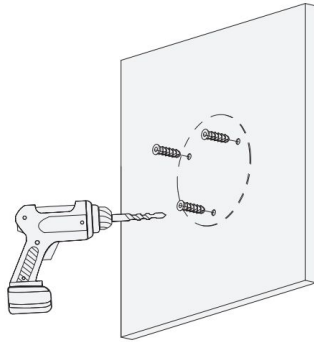

Figure 2-1
Step 2 Drill the appropriate mounting holes and cable exit, if necessary. Install the expansion screws. See Figure 2-1.